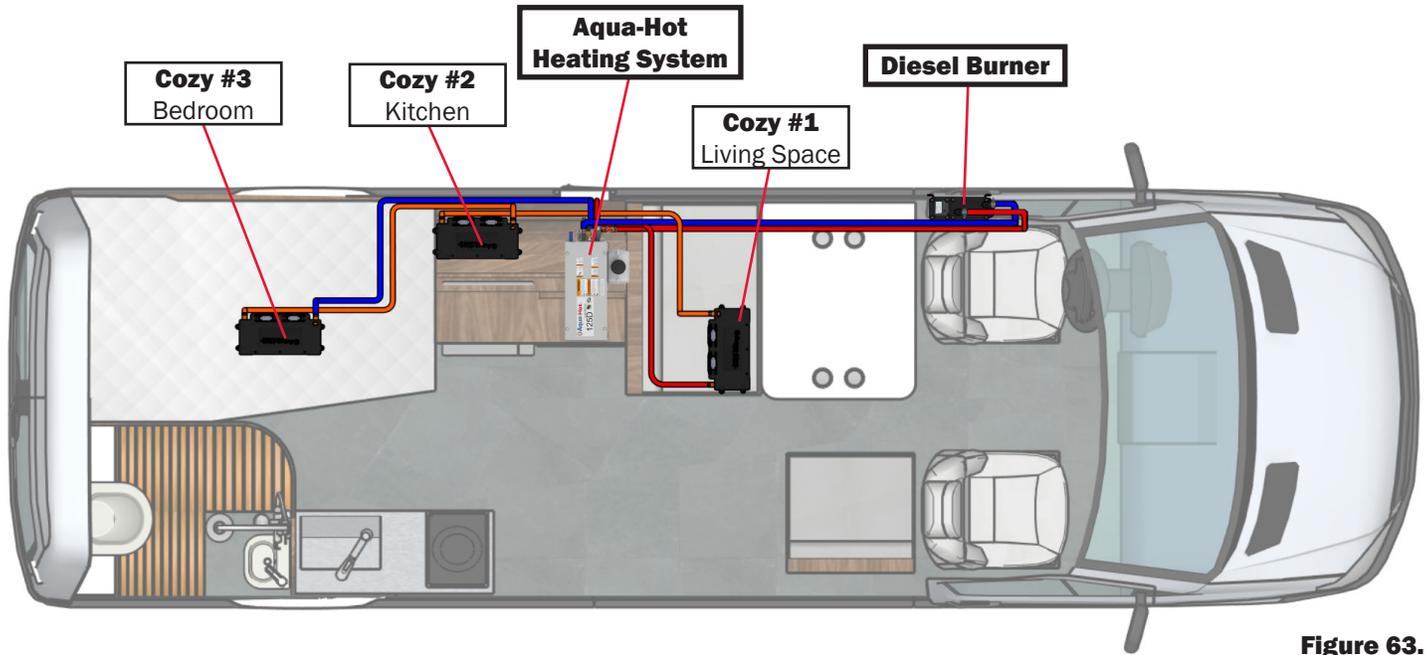

Figure 63.
1. Cut out a 2.5" x 10" (7cm x 26cm) opening for each heat exchanger outlet and cold-air return grate as shown in Figure 63.